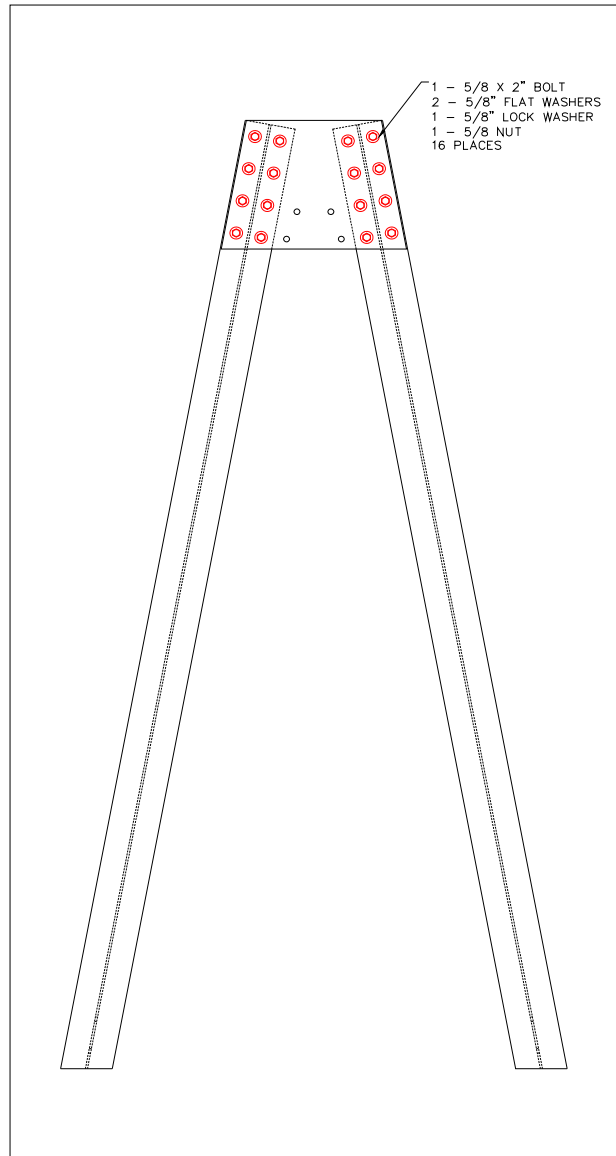

Figure 4-3 Assembly step 3
- (3) Flip the assy over and place the back “base side” plate (Item 10, Table 2-1) on top of the legs and loosely fasten all sixteen 5/8" x 2" bolts. Refer to Figure 4-3.